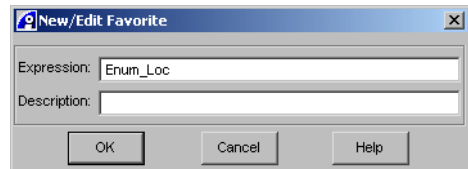

Figure 6-19 Adding a new favorite
3. Click **Add to List** to add the specified expression to your Favorites List. This displays the New/Edit Favorite dialog box shown in Figure 6-19 on page 6-48.